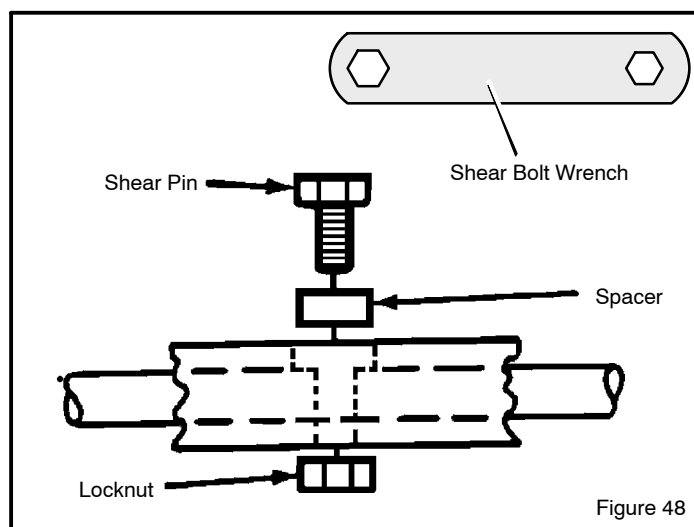

Figure 48
2. Align the hole in the auger with the hole in the auger shaft. Install new shear bolt, spacer and locknut found in the toolbox located on the belt cover (See Figure 48). Tighten with the shear bolt wrench.